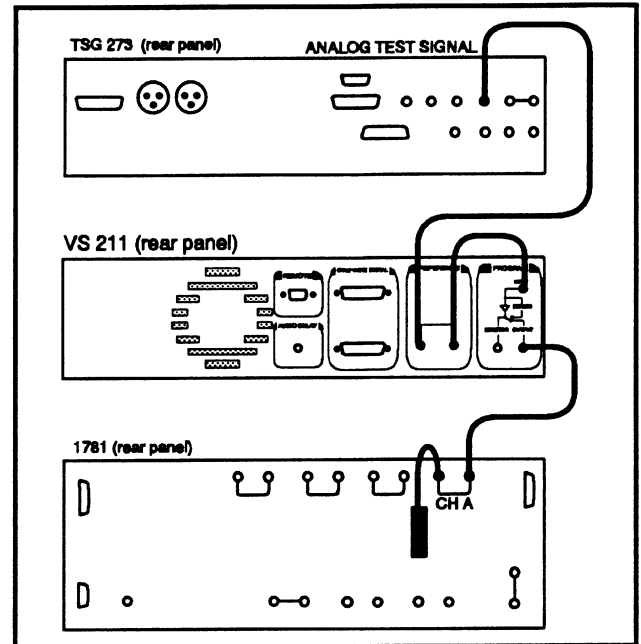

Fig. 4-12.
- Connect a full-field output from a test signal generator to the VS 211 REFERENCE INPUT LOOP-THROUGH and terminate the REFERENCE OUTPUT loop-through connector in 75Ω as shown in Fig. 4-12.